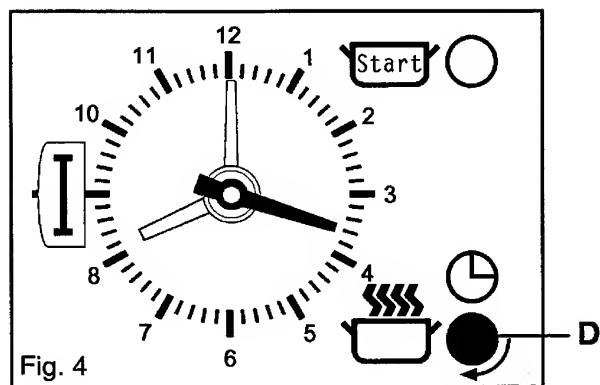

Fig. 4
Turn setting knob (D) clockwise, **without pulling it out** until the manual symbol appears in the display window as Fig.4.